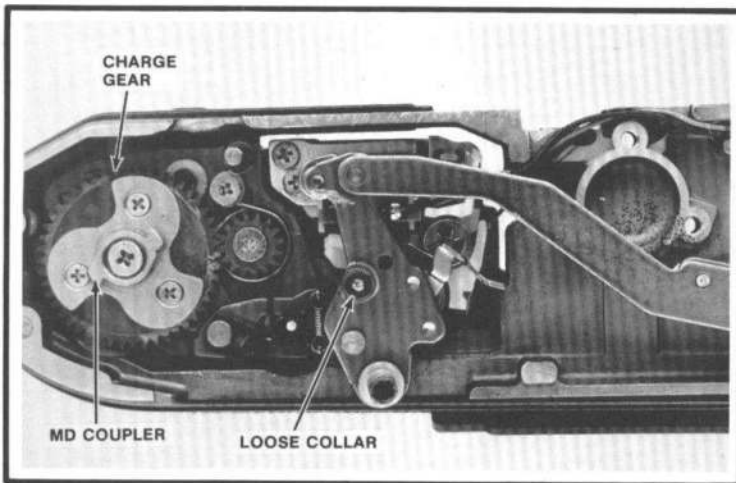

Figure 67
Caution: Watch for the loose collar on the underside of the connecting lever, Fig. 67. The collar slips over the connecting-lever post and rides against the lobes of the charge cam. You can get the collar in different diameters as an overtravel adjustment for the connecting lever. Although you should never have to make the adjustment, it's necessary to specify the size when ordering a replacement collar. Order collar CA1-4717-000 in one of the following sizes: 3mm (030), 3.2mm (032), 3.3mm (033), 3.4mm (034), 3.5mm (035), 3.6mm (036), 3.7mm (037), 3.8mm (038), or 4mm (040).
6. Remove the screw holding the MD coupler and the charge gear, Fig. 67. You may have to use M.E.K. to loosen the locking agent on the screw threads. Note: The factory uses two slightly different versions of the charge gear as an adjustment; the variation is in the angle of the rectangular center slot with respect to the gear teeth. You should never have to change the teeth. You should never have to change the charge gear as an adjustment. But, if you have to replace a damaged charge gear, order the same type as the original. You can identify which type the camera uses by the color of the screw, Fig. 67. If the screw is black, replace the charge gear with size 010. If the screw is white (chrome), use charge gear size 050. The part number for the charge gear is CS2-0355-000.